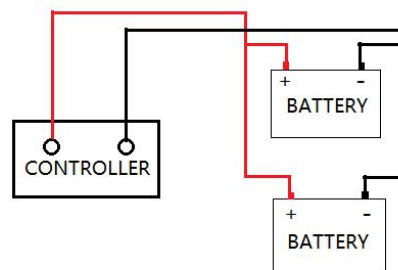

Figure 7.2.3
Step 3: Connect the battery to controllers. Figure 7.2.3